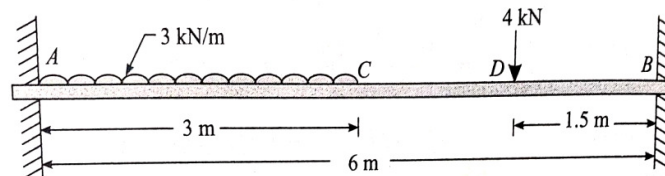

Figure 1.
2. A beam  $AB$  of uniform section and 6 m span is built at the ends. A uniformly distributed load of 3 kN/m runs over the left half of the span and there is in addition a concentrated load of 4 kN at right quarter as shown in figure 1. Determine the fixing moments at the ends and the reactions. [14M]